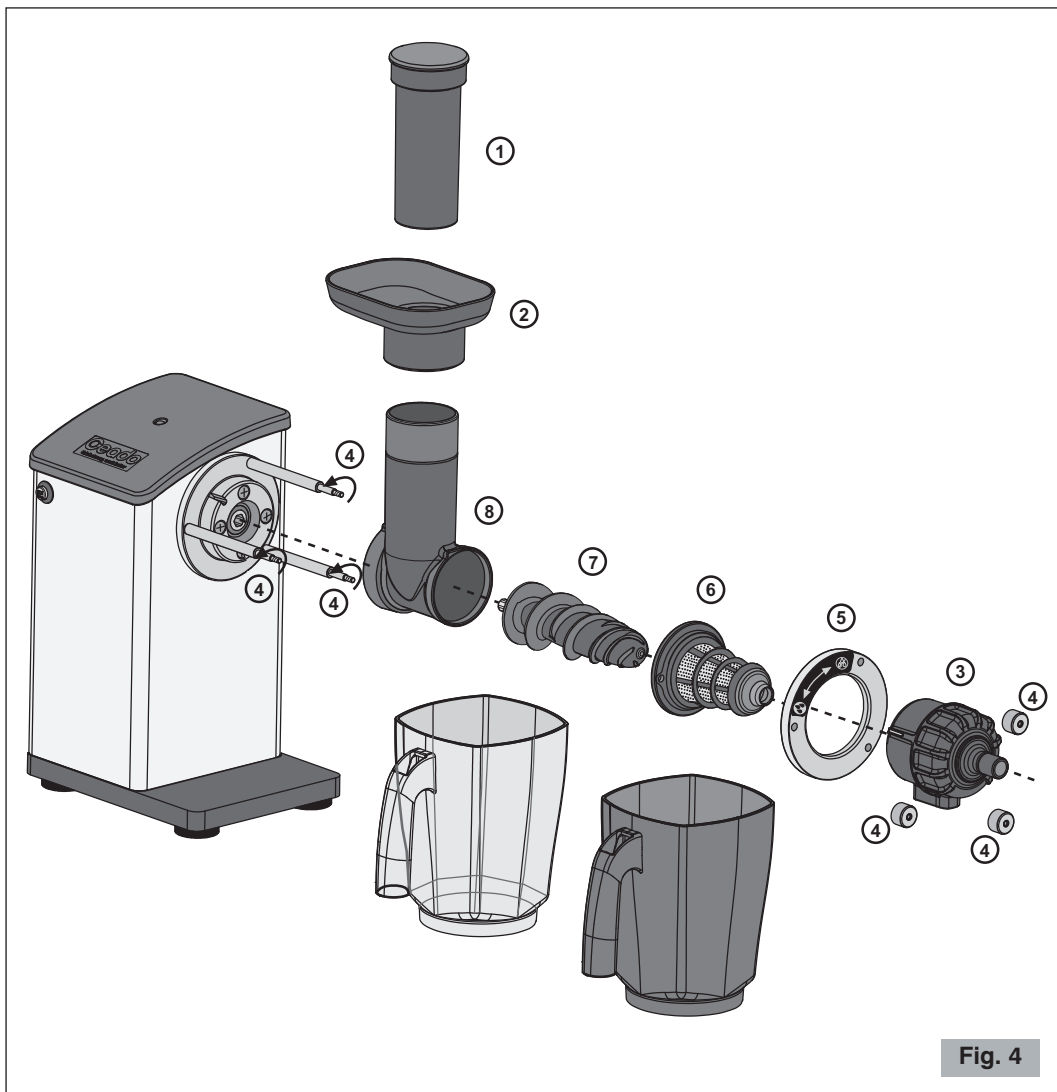

Fig. 4
**1** Remove the jugs and disassemble the components in the order shown in the figure (Fig. 4).
- 3** Reassemble in reverse order (Fig. 4).